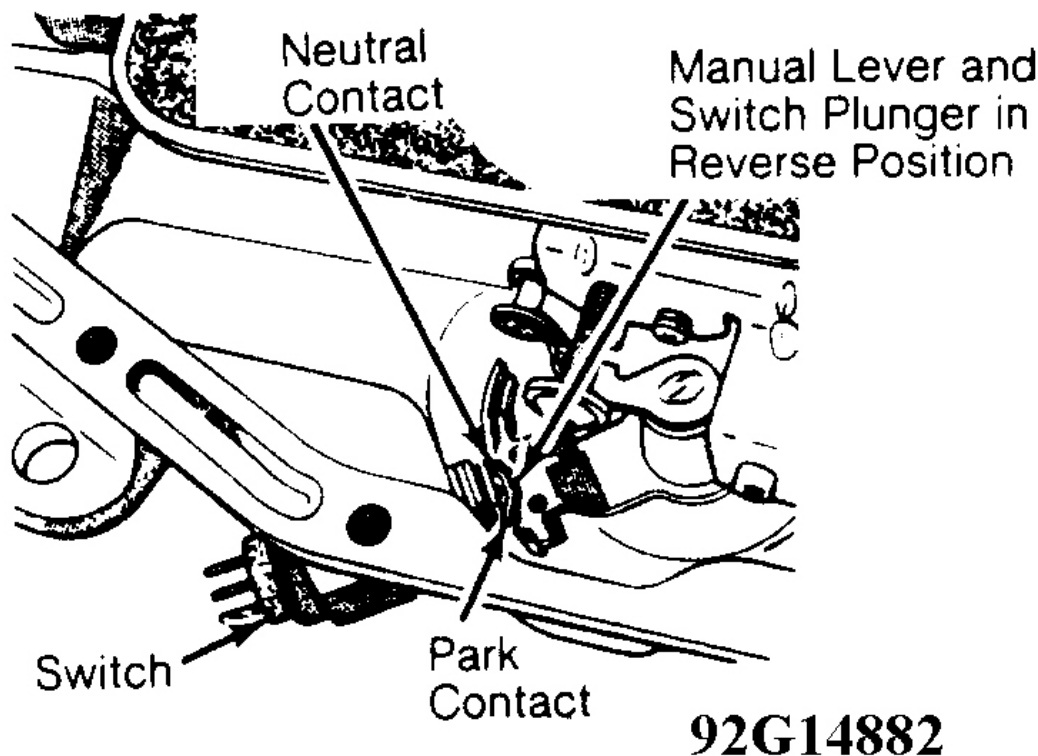

Fig. 3: Testing Neutral Start Switch
2. Unscrew switch from transmission case. Move gear selector lever to "P" then "N" positions, and ensure switch operating lever fingers are centered in switch opening. See **Fig. 3** . Screw switch and NEW seal into transmission case and tighten to 25 ft. lbs. (34 N.m). Retest switch and refill transmission fluid to proper level.